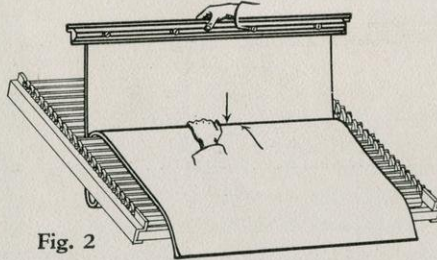

Fig. 2
**SECOND :** With left hand, push the prints down into the correct opening; at the same time lower the binder with the right hand. (See Fig. 2.)